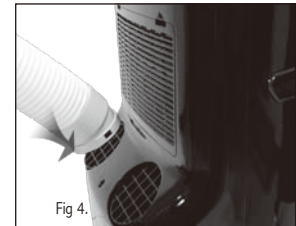

Fig 4.
D. Connecting the Exhaust Hose to the PAC : Fig 4.